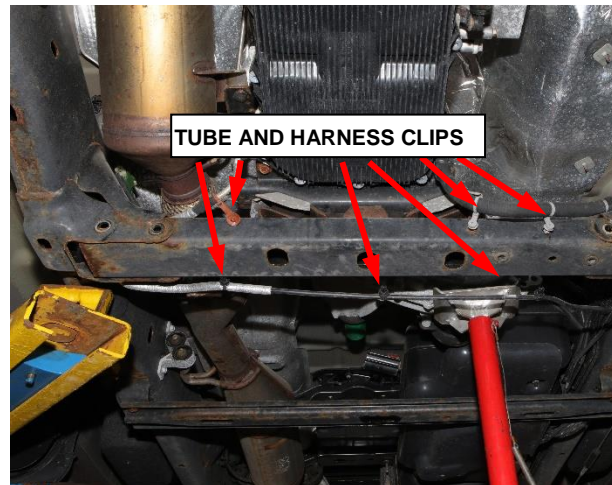

Figure 3 – Transmission Crossmember
107. Install the front cover and tighten the front bolts (1) to 55 N·m (41 ft. lbs.) Leave the rear bolts (3) loose (Figure 3).
10. Release the push pin clips retaining the DEF tube and wiring harness to the transmission crossmember (Figure 3).